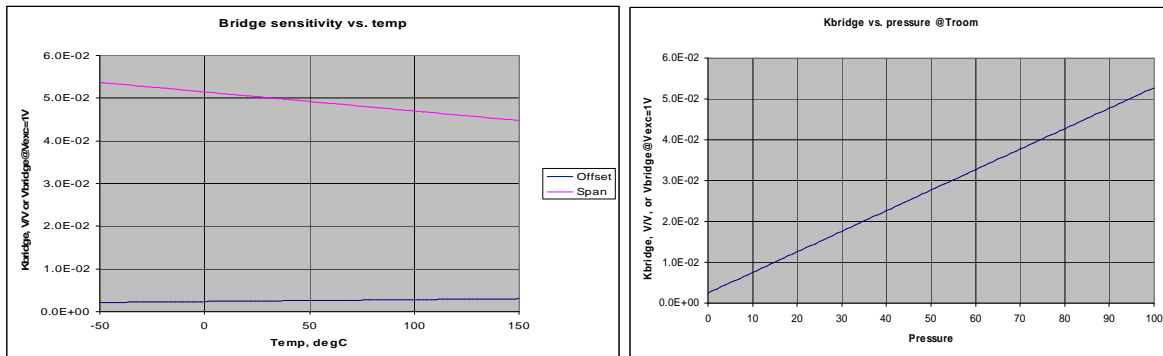

Figure 30: Approximated Sensor Curves
Upon completion of the measurements the fitted sensor function is displayed on two plots located on this worksheet (see Figure 30): offset and span vs. temperature and Vbridge vs. input pressure
- 8) Verify that the resulting fitted sensor approximation (Figure 30) are in agreement with the characterization data.